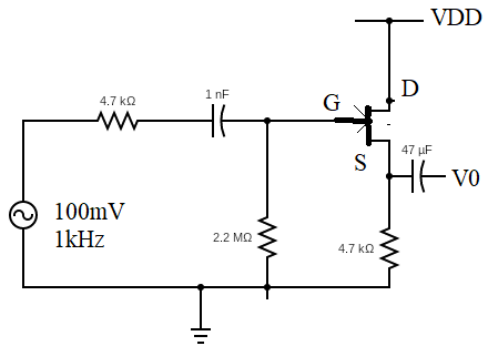

Figure 15.2: Circuit Diagram for Frequency response of CD FET amplifier
1. Connection is made as per the given Figure 15.2.